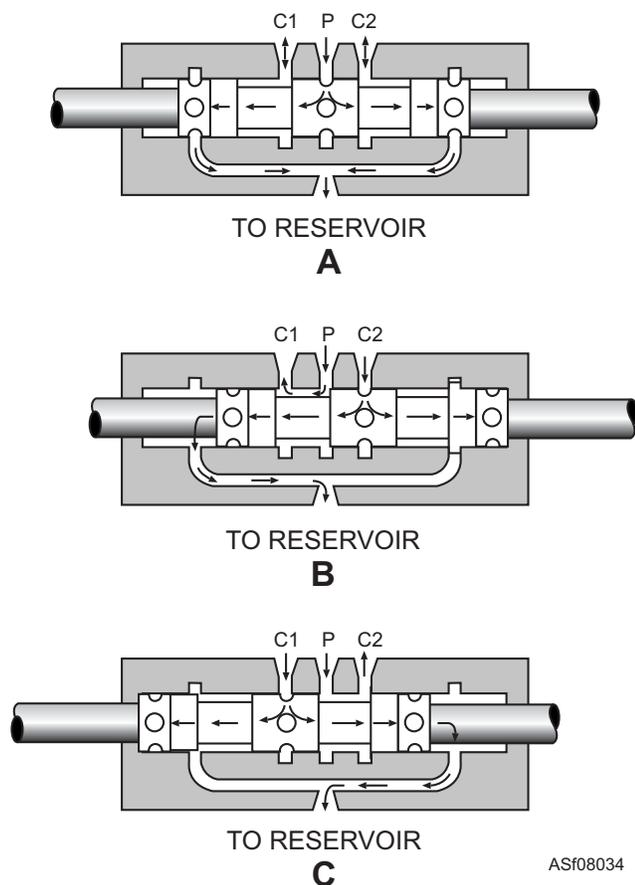

Figure 8-34.—Open-center directional control valve.
**OPEN-CENTER DIRECTIONAL CONTROL VALVE.**—Figure 8-34 shows the operation of a typical open-center control valve. When this type of valve is in the neutral position, as shown in view A, fluid flows into the valve through the pressure port (P), through the hollow spool, and to the return.